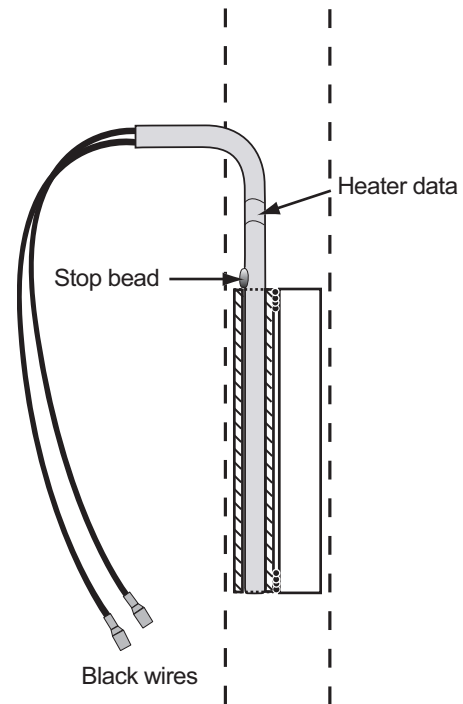
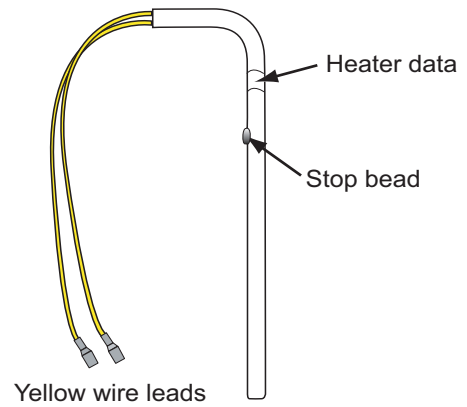

Figure 26. AC heater in heater well
Figure 27. DC heater
The ac heater, see Figure 26, has black leads and is a cartridge type heater. The heater is rated for 200 watts/ 2.5 amps at 110 Vac. Heater resistance is 61.3 ohms. The ac heater replacement procedure is located on page 30.
When replacing an ac heater make sure the stop bead rests fully against heater tube rim. See Figure 26.
The dc heater, which has yellow leads, is shown in Figure 27, page 30. The heater is rated for 225 watts/16 amps, and requires 12 to 15 Vdc for operation. Heater resistance is 0.87 ohms.
The dc heater must be inserted into the heater tube until the stop bead makes full contact with the tube's rim. The stop bead is shown in Figure 27.
5. Install replacement heater in heater well, making sure that stop bead rests fully against heater well rim. Stop bead is shown in Figure 26, page 29, and Figure 27.